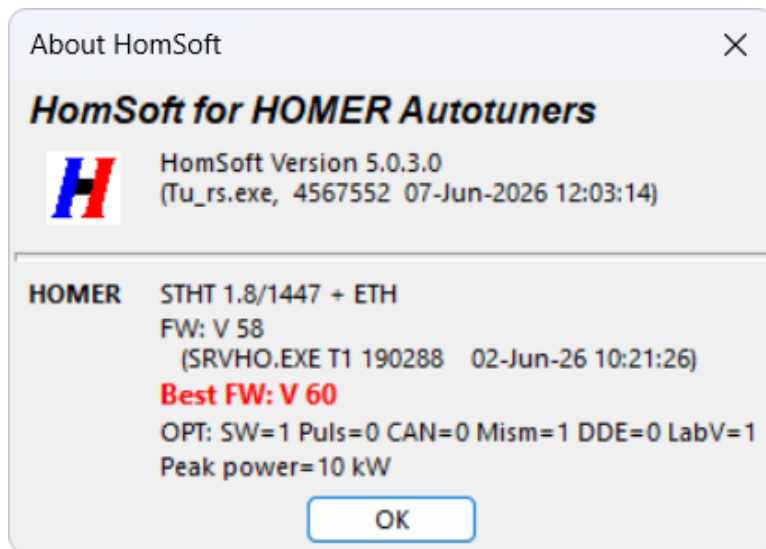

Fig. 67. About window example.
- Paste the clipboard to MyProblem.docx (see the example in Fig. 67).